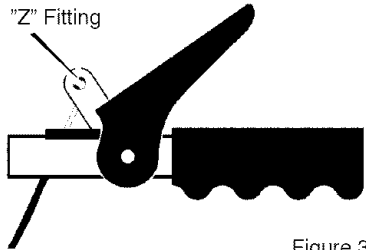

Figure 32
To check for correct adjustment, unhook "Z" fitting at clutch lever (see Figure 32).
11. Install the **"Z" hook** to the **traction drive lever** (see Figure 32).
5. Disconnect the **"Z" fitting** from the **drive lever** (see Figure 32).